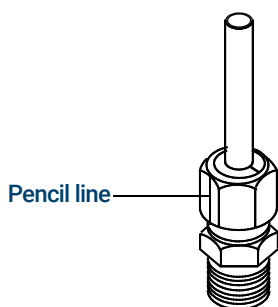

Figure 26. Mark the fitting
- 7 Mark the nut with a pencil line. See **Figure 26**.